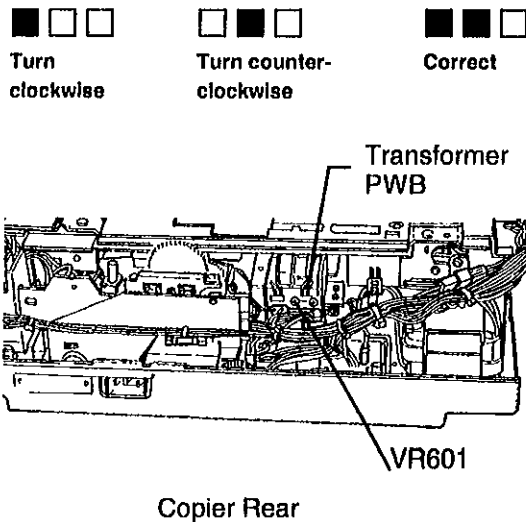

Figure 1. Adjusting the white reference level
- b) (Figure 1) Adjust VR601 on the transformer PWB until the Auto and Light lamps are both lit as shown below